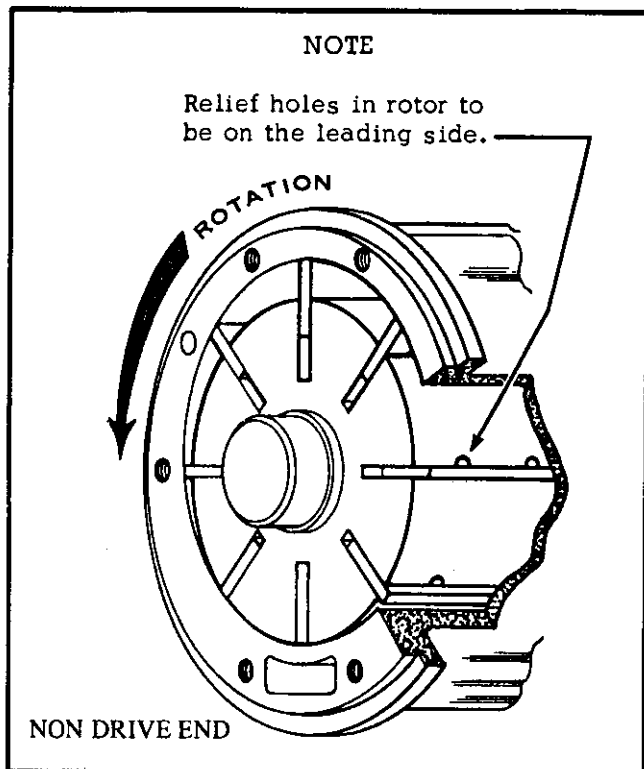
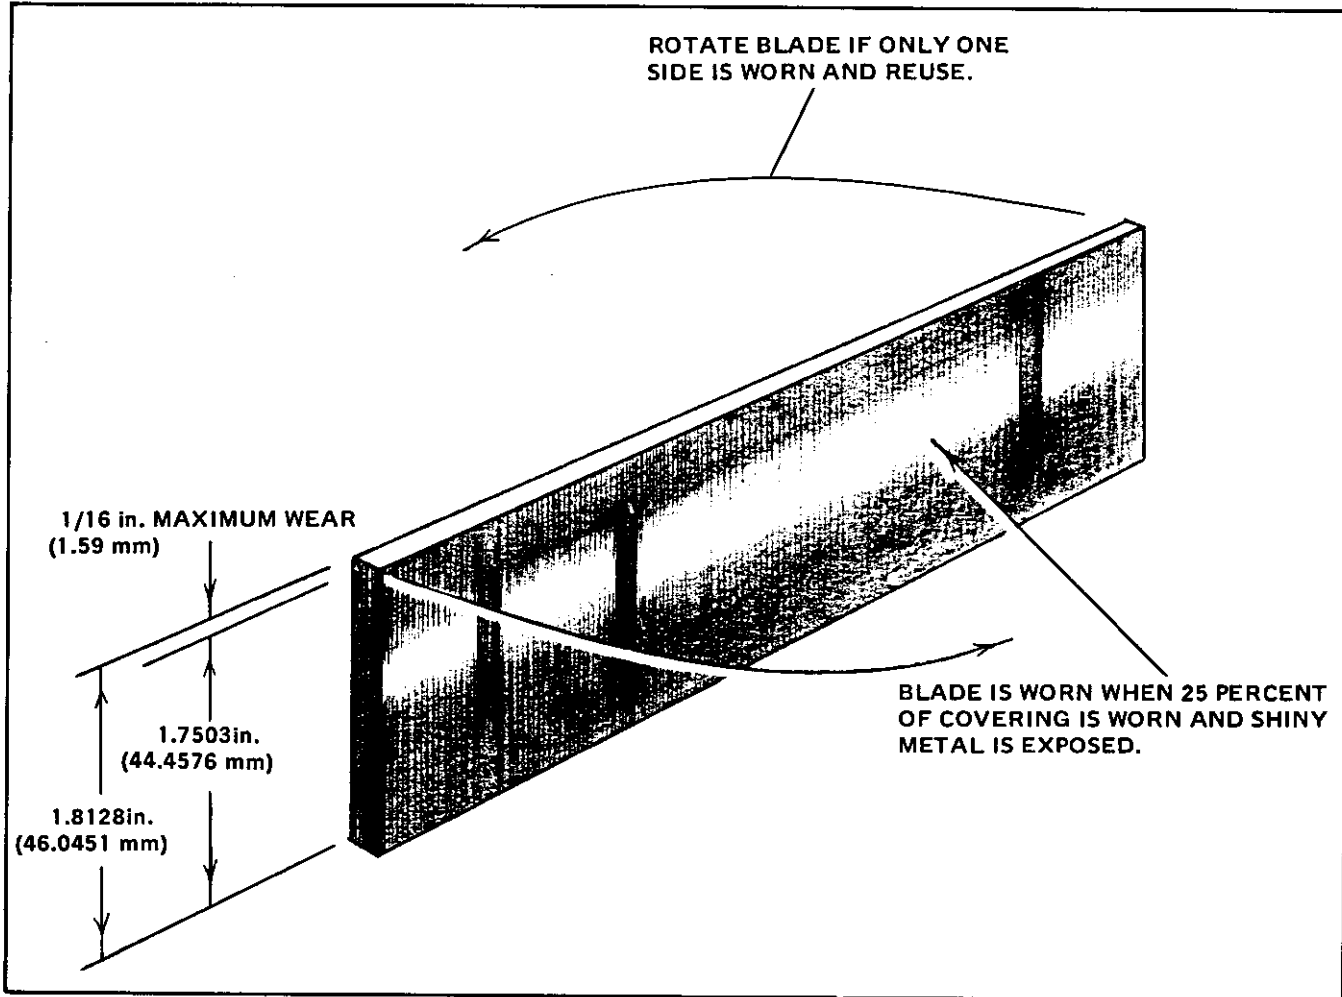

Figure 3-4. Compressor rotor installation
Figure 3-6. Rotor Blade Inspection
f. Replace blades (Fig. 3-6) when coating is worn off and bare metal is exposed on blade sides. If one side of blade is not worn, rotate blade 180 degrees and replace in slot. Blades should slide freely in slots. (Also, see Fig. 3-4.)
Heat bearing inner races (1 and 7) evenly in hot cooking oil to a maximum of 350°F. Install inner race (7) on shaft to shoulder. Assemble outer race (6) and spacer (5) on bearing inner race. Press bearing and shaft into cover (9). Place key (3) in shaft and slide rotor on shaft, making sure relief slots in rotor are leading in the direction of rotation (Fig. 3-4). Place heated bearing inner race (1) on shaft to shoulder. Complete assembly, referring to Figures 5-19 and 3-5.